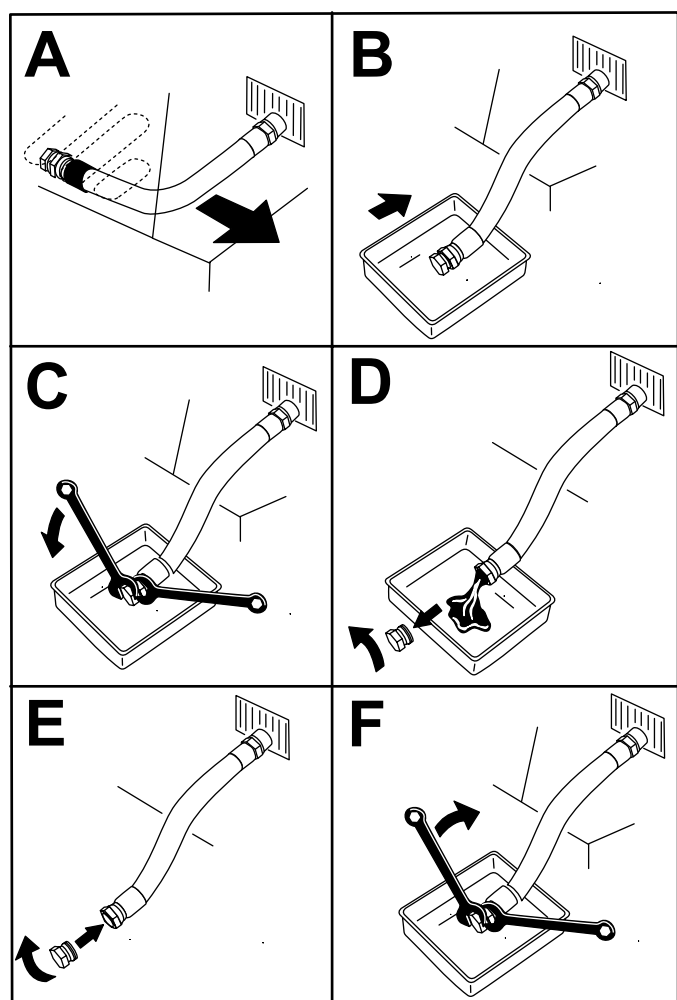

Figure 35
4. Drain the oil from the engine (Figure 35).